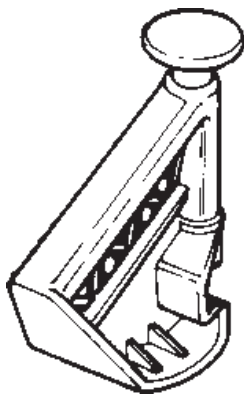

Figure 1.5-3
**EAA0247G70A - Bead Holding Clamp** (Fig.1.5-3)